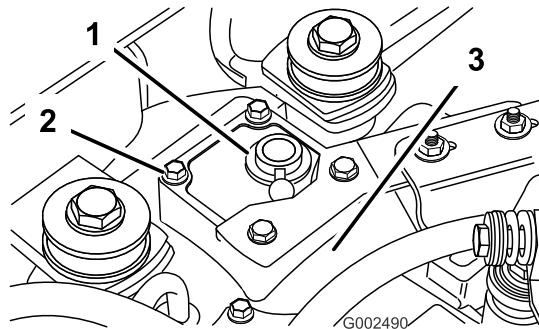

Figure 5
1. Remove the four bolts securing the cover to the top of the transaxle housing (Figure 5). Remove the muffler bracket.